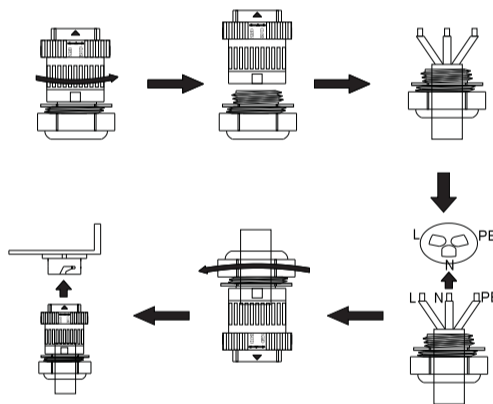

Figure 6 Connection of the AC side and the inverter
- (1) Before connecting the single-phase AC grid cable to the inverter, take lightning and short circuit protection measures in accordance with the local electrical safety codes;
- (2) As shown in Figure 6, connect and fasten L, N and PE conductors of the single-phase common grid to AC terminal, and then connect the terminal to the AC port of the inverter;
- (3) Fix and connect the DC output cables of PV board with the matched DC connectors, and then connect the connectors to the DC port of the inverter.